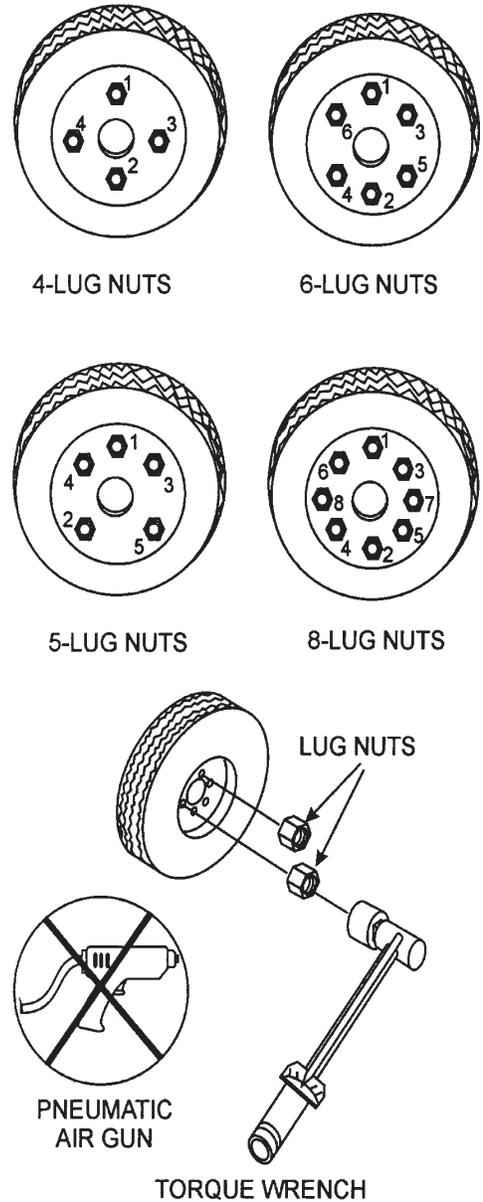

Figure 64. Wheel Lug Nuts Tightening Sequence
12. **Lug Nuts** — Used to secure the wheel to the wheel hub. Always use a torque wrench to tighten down the lug nuts. Reference Table 16 and Figure 64 for lug nut tightening and sequence.
2. Torque all lug nuts in sequence (Reference Figure 64). **DO NOT** torque the wheel lug nuts all the way down. Tighten each lug nut in 3 separate passes as defined by Table 16.